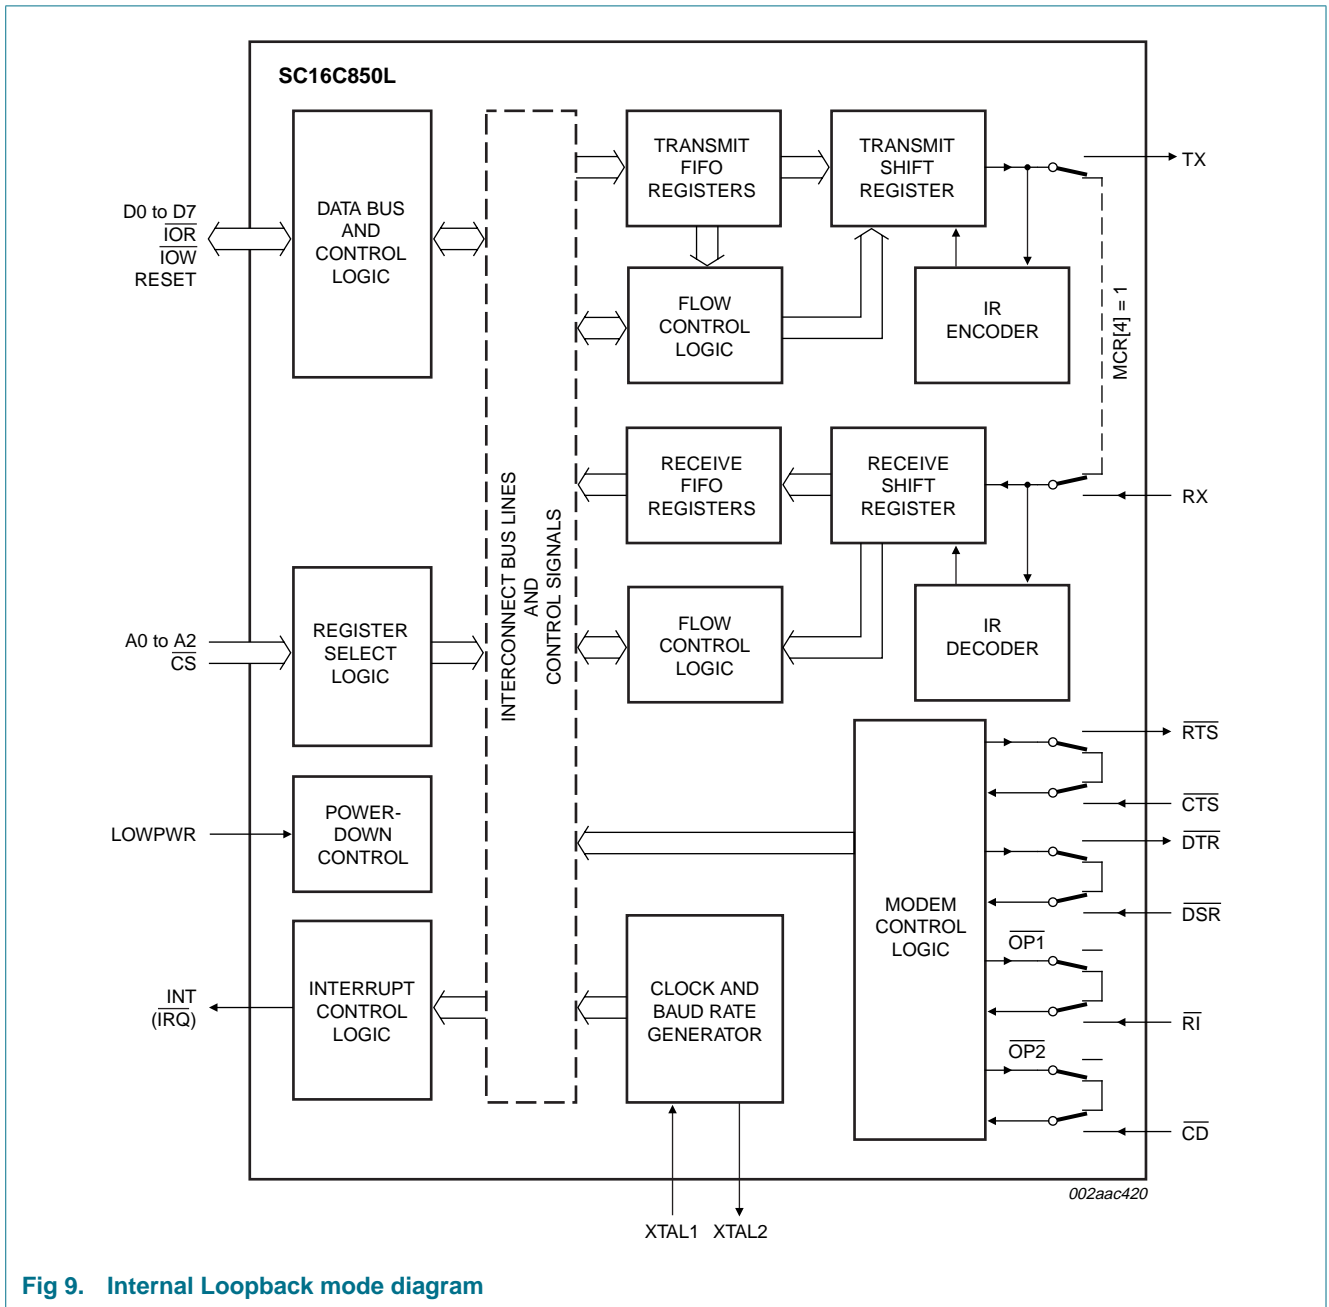

Fig 9. Internal Loopback mode diagram
The internal loopback capability allows on-board diagnostics. In the Loopback mode, the normal modem interface pins are disconnected and reconfigured for loopback internally (see Figure 9). MCR[3:0] register bits are used for controlling loopback diagnostic testing. In the Loopback mode, the transmitter output (TX) and the receiver input (RX) are disconnected from their associated interface pins, and instead are connected together internally. The \overline{CTS} , \overline{DSR} , \overline{CD} , and \overline{RI} are disconnected from their normal modem control input pins, and instead are connected internally to \overline{RTS} , \overline{DTR} , MCR[3] ($\overline{OP2}$) and MCR[2] ($\overline{OP1}$). Loopback test data is entered into the transmit holding register via the user data bus interface, D[7:0]. The transmit UART serializes the data and passes the serial data to the receive UART via the internal loopback connection. The receive UART converts the serial data back into parallel data that is then made available at the user data interface D[7:0]. The user optionally compares the received data to the initial transmitted data for verifying error-free operation of the UART TX/RX circuits.